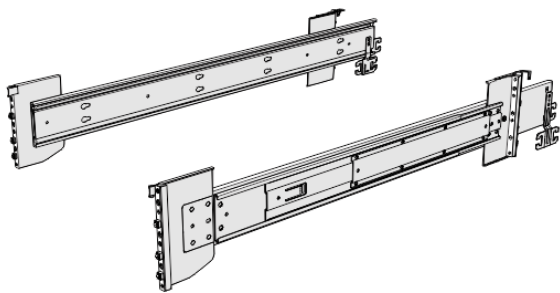

Figure 26. Support rails
1. Locate the hardware that is used to install the rails, including the M4xL6 and M5xL13 screws. Set the hardware, which is shown in Figure 26 on page 42, aside for use later in the installation process.